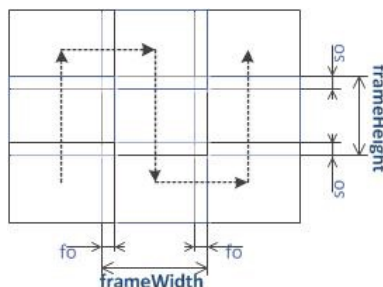

Figure 5 - Sample photogrammetry route
**Side overlap (%)** – the ratio of the overlap into neighboring frames (located in neighboring rows, see Figure 5 - Sample photogrammetry route). Value is set in the range from 1% to 90%.
**Side overlap (%)** – the ratio of the overlap into neighboring frames (placed in neighboring rows, see Figure 5 - Sample photogrammetry route). Value is set in the range from 1 % to 90%.